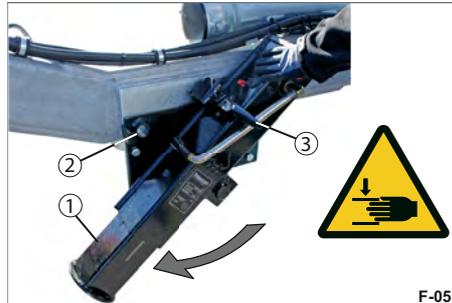

Fig. 76 Rotating swivel support
- ▶ Turn the swivel support (Fig. 76/1) to the vertical support position.
- ▶ Rotate the locking lever (Fig. 76/3) downwards. The pin engages in the lock bore hole (Fig. 76/2). The swivel support is secured.